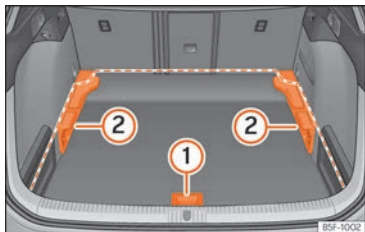
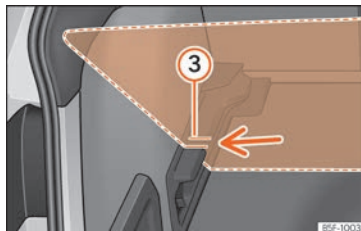

Fig. 147 Variable luggage compartment floor: positions.
Fig. 148 Variable luggage compartment floor: inclined slots.
»» Fig. 147 ①, and pull it back until the front of the floor has fully passed the supports ②.
- Move the floor forward over the supports as far as the rear seat backrest and then lower the floor with the handle ①.
- Now let the front part fall to the floor and slide the floor forwards as far as the rear seat backrest; lower the floor at the same time with the handle ①.
»» Fig. 147 ① and pull it back until the front of the floor has fully passed the tilted grooves »» Fig. 148 ③.
- Run the floor through these grooves with the help of handle ① as the rear seat backrest and until the floor is resting in the grooves.